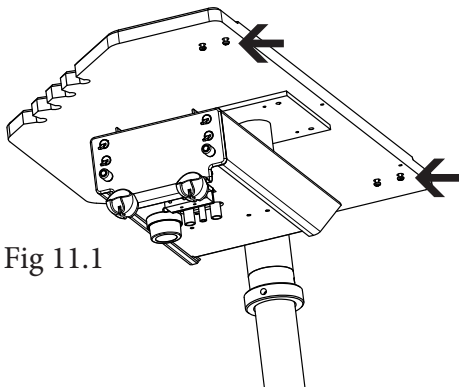
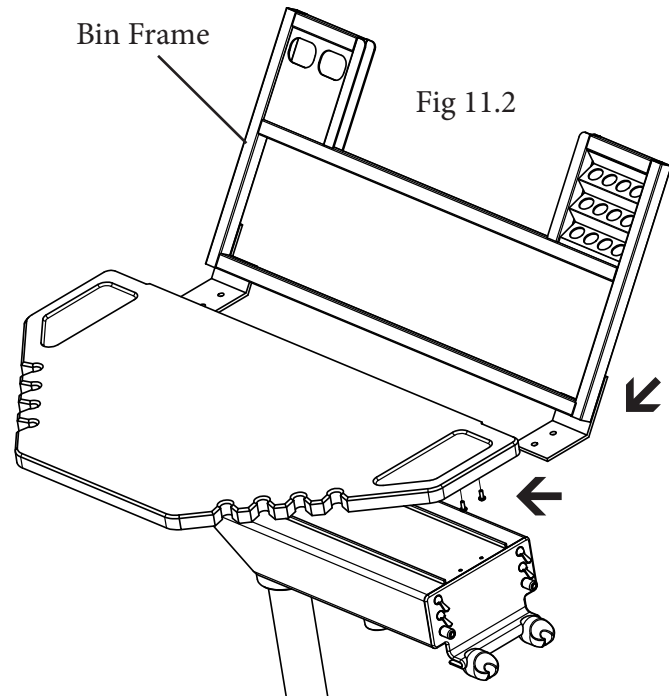

Fig 11.1
Fig 11.2
1. There are 4 Button Socket Cap Screws pre-installed on the underneath side of the Corian Work Surface (Fig 11.1). Remove the screws and line up the Bin Frame to be secured to the Work Surface with the Socket Cap Screws (Fig 11.2).